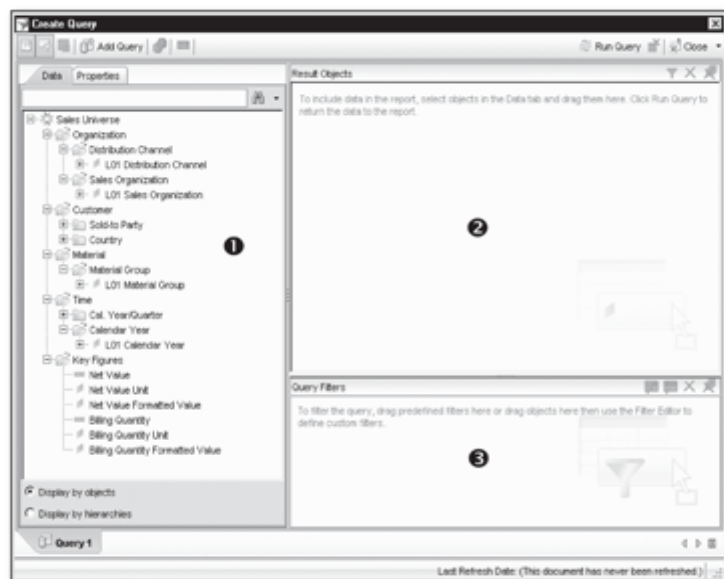

Figure 13.21 Create Query: Screen Layout
The default layout screen where you create the query has three major sections (Figure 13.21).
The pane on the left side (❶ of Figure 13.21) displays all of the data elements from the universe over which the query had to be created. The structure in which the elements are displayed is similar to that of the universe, that is, following the class, subclass, dimension, and details. The Result Objects pane on the right side (❷) includes the objects that are displayed in the report. The Query Filters pane on the right side (❸) bears all of the filters or restrictions that are to be defined for a query. On this screen, you can create, edit, and format a WebI query. Let's build one for a business example, which shows yearly direct sales by material group for different sales organizations for the selected year, along with an additional column displaying sales per unit sold.